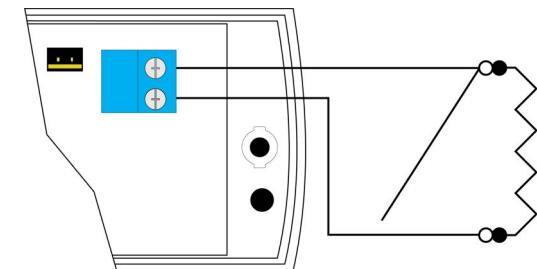

Figure 2 Wired for N/O operation
2. Use 22 AWG wire to wire the 2.2K ohm resistor in parallel with the N/O contact per Figure 2. The distance from the external contact to the EN1215WEOL must not exceed 10 feet (3 meters).